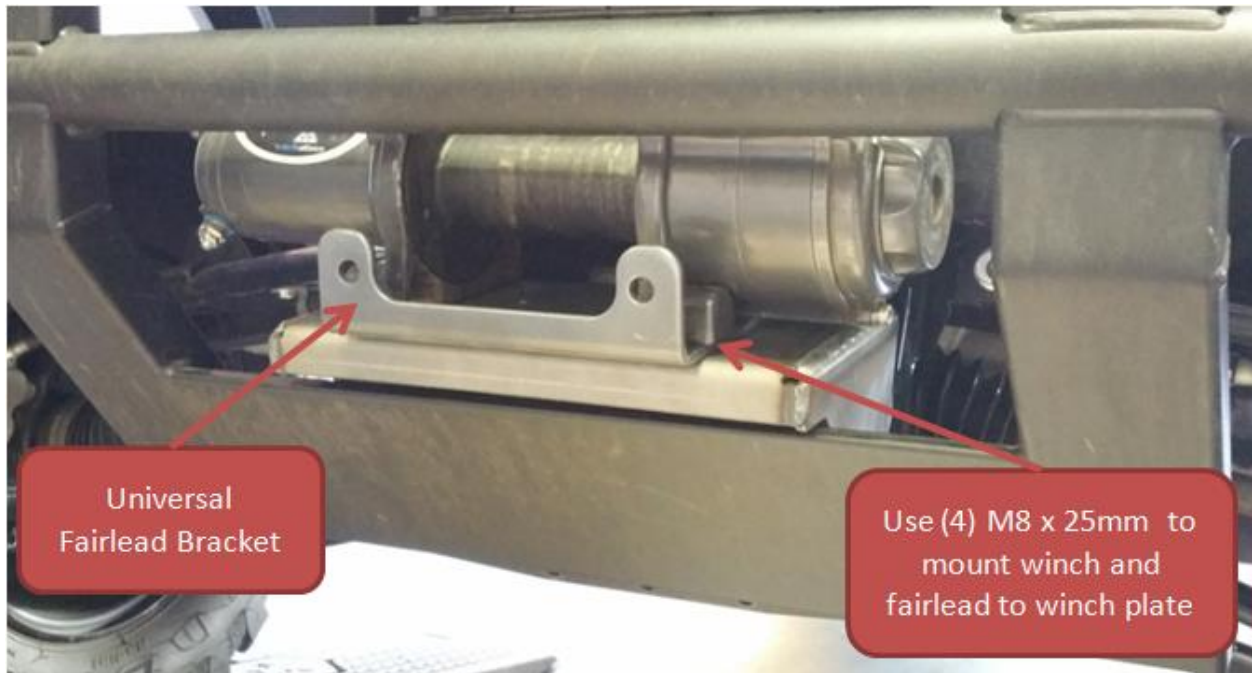

Figure 4
4. All VIPER winches include two sets of M8 hardware, one set is 20mm long and one is 25mm long. Use the four (4), 25mm hex bolts to mount the Winch and Universal Fairlead Bracket, included in all VIPER winches, to the Winch Mount Base Plate, as shown in Figure 4.